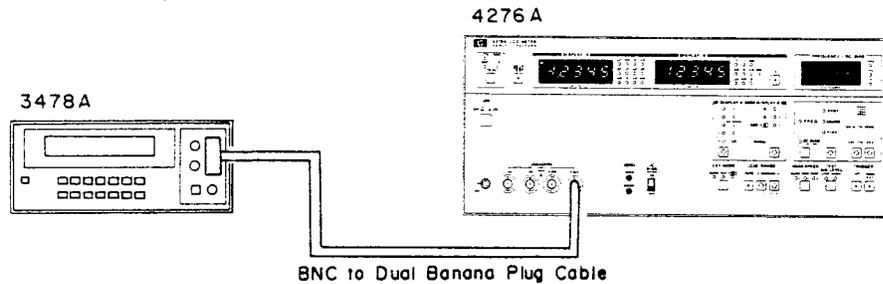

Figure 5-3. A2 Test Signal Level Adjustment Setup.
1. Connect the 3478A to the 4276A H_{CUR} terminal with a BNC-to dual banana plug cable, as shown in Figure 5-3.